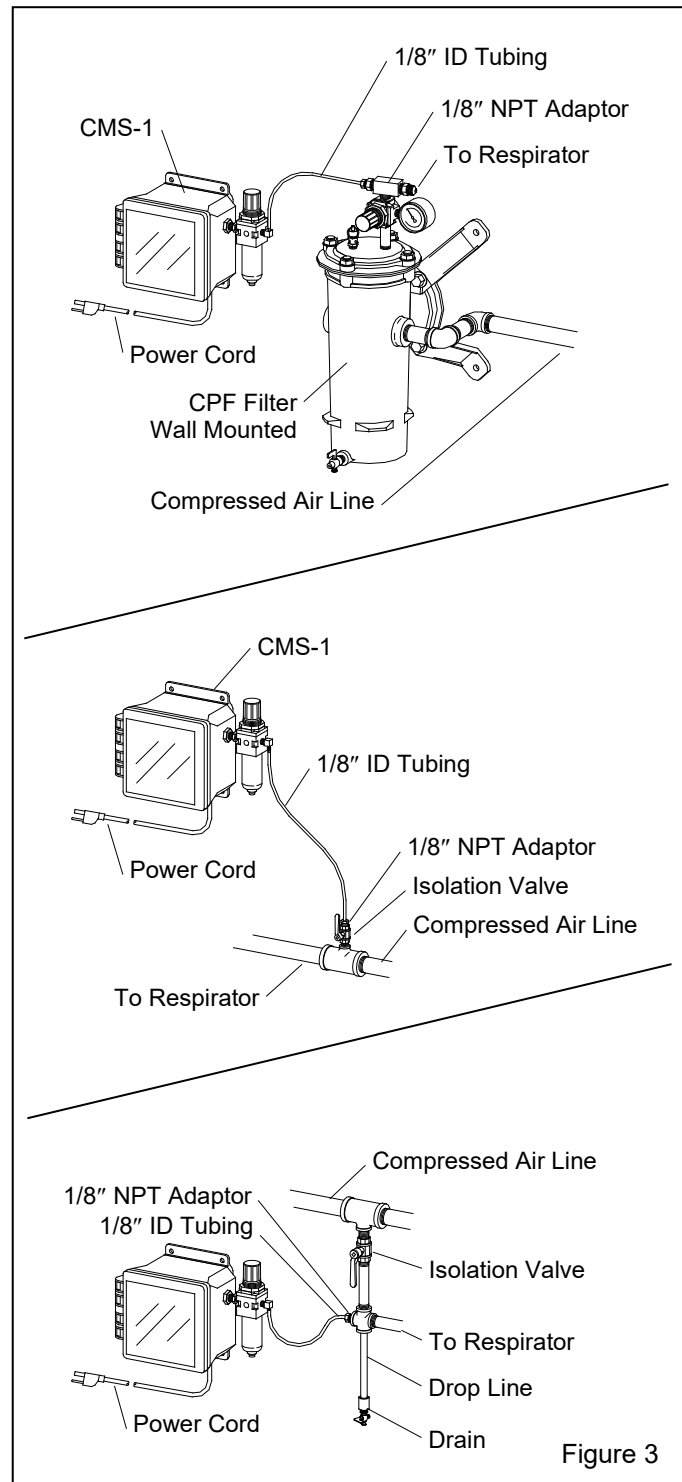

Figure 3
**2.3.2.3** Place a tee in the air-supply line, and use a bushing or other adaptor to connect the 1/8" NPT tube adaptor supplied. Install an isolation valve at the source to enable depressurization for service and to remove the monitor. Typical setups are shown in Figure 3.